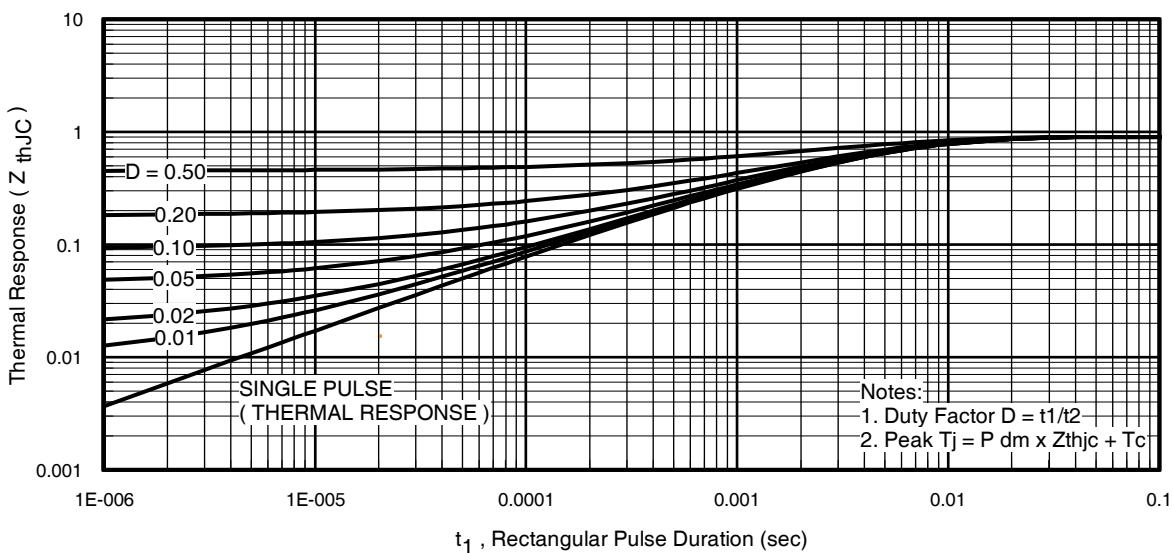
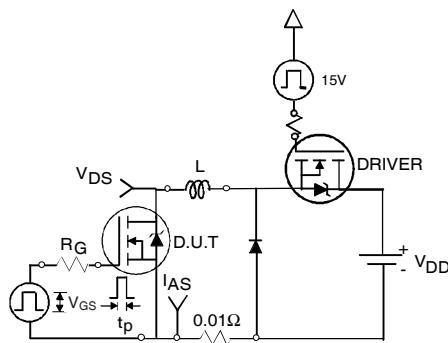

Fig 11. Maximum Effective Transient Thermal Impedance, Junction-to-Case
Fig 12a. Unclamped Inductive Test Circuit
- ① Repetitive rating; pulse width limited by max. junction temperature. (See fig. 11).
- ② Limited by $T_{J\text{max}}$, starting $T_J = 25^\circ\text{C}$, $L = 0.12\text{mH}$, $R_G = 25\Omega$, $I_{AS} = 53\text{A}$, $V_{GS} = 10V$. Part not recommended for use above this value.
- ③ $I_{SD} \leq 53\text{A}$, $di/dt \leq 420\text{A}/\mu\text{s}$, $V_{DD} \leq V_{(\text{BR})\text{DSS}}$, $T_J \leq 175^\circ\text{C}$.
- ④ Pulse width $\leq 1.0\text{ms}$; duty cycle $\leq 2\%$.
- ⑤ $C_{oss \text{ eff.}}$ is a fixed capacitance that gives the same charging time as C_{oss} while V_{DS} is rising from 0 to 80% V_{DSS} .
- ⑥ Limited by $T_{J\text{max}}$, see Fig.12a, 12b, 15, 16 for typical repetitive avalanche performance.
- ⑦ This value determined from sample failure population. 100% tested to this value in production.
- ⑧ This is applied to D²Pak, when mounted on 1" square PCB (FR-4 or G-10 Material). For recommended footprint and soldering techniques refer to application note #AN-994.
3. Equation below based on circuit and waveforms shown in Figures 12a, 12b.
- $Z_{thJC}(D, t_{av})$ = Transient thermal resistance, see figure 11)